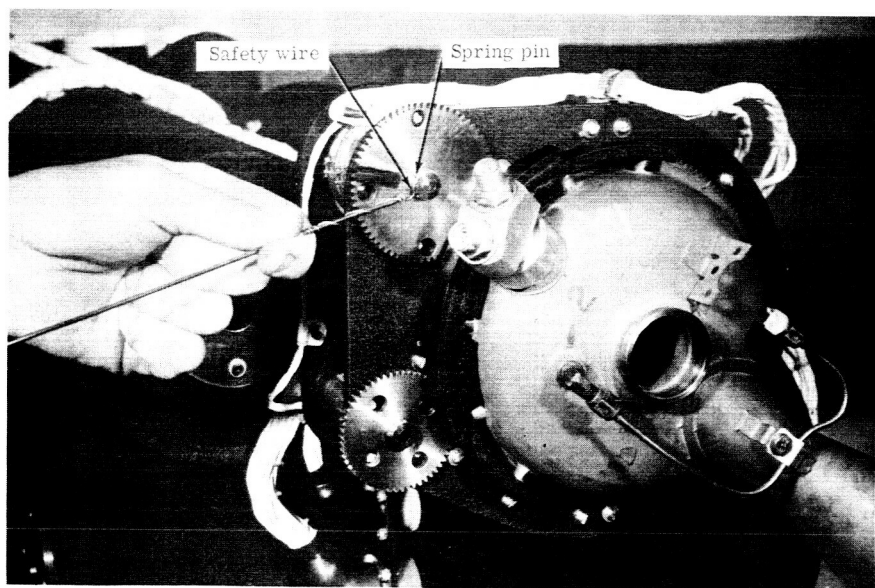

Figure 2-12. Safety wiring spring pins in gears.
- e. Install safety wire as shown in Figure 2-12.